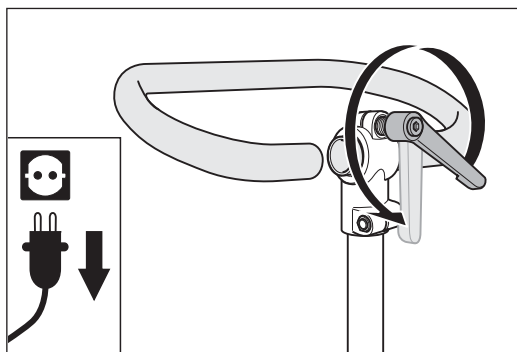

Fig. 14 Undoing the clamping lever on the extension.
- 3 Undo the clamping lever at the upper end of the extension (Fig. 14).